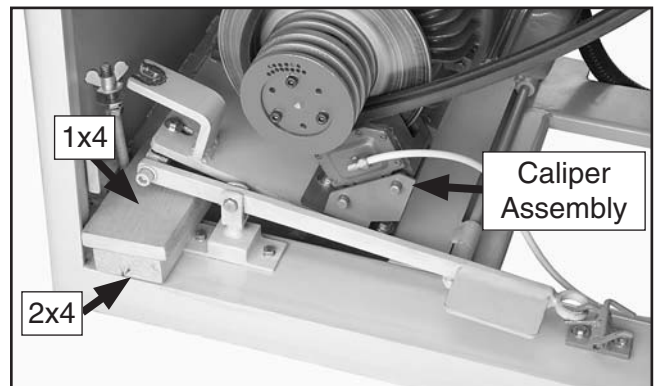

Figure 70. 2x4 positioned between frame and motor.
3. As an additional precaution, place a 2x4 and a 1x4 under the motor assembly, as shown in **Figure 70**. This will reduce the risk of serious personal injury by ensuring the motor assembly and foot pedal remain stationary during the following steps.